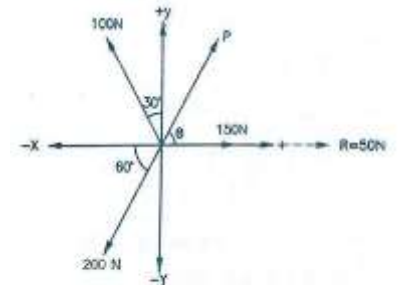

Figure 6
- (c) A system of four forces shown in Figure 6 has resultant 50N along X-axis. Determine magnitude & inclination of unknown force P. [04]